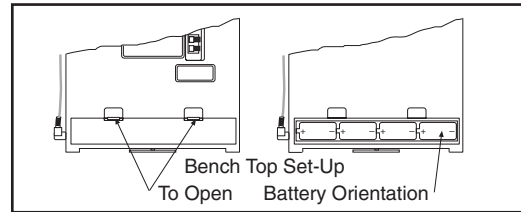

Figure 2. Battery Placement
2. Insert the 4 "D" size batteries in the battery compartment as shown in Figure 2.